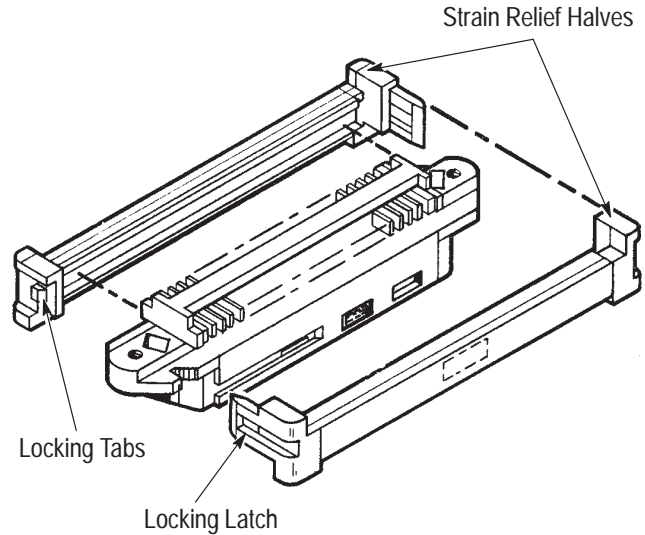

Figure 2
Strain relief hardware can be selected from the tables in Figures 2 and 3. Determine what connector is to be used and what application is required.
1. Determine the number of positions in the connector. Refer to the table in Figure 2 and select the applicable strain relief.
2. Position the first half on the connector as shown in Figure 2.